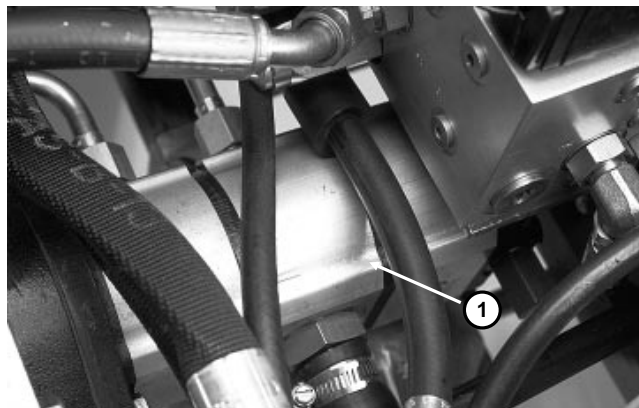

Figure 91
2. Raise seat and secure with prop rod to get access to pump (Fig. 91, 92).
6. Remove two (2) capscrews and washers securing pump to support plate. Remove pump, transmission coupling, and pump sleeve.